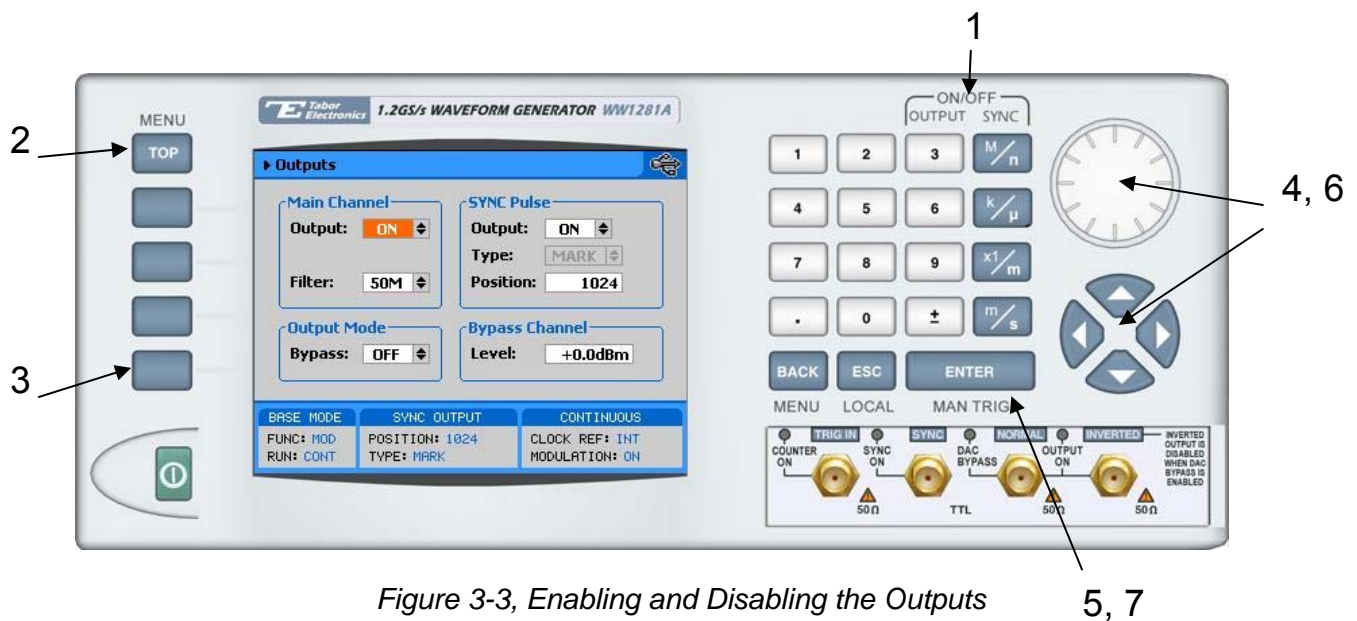

Figure 3-3, Enabling and Disabling the Outputs
For safety reasons, main outputs default setting is OFF. The outputs can be turned on and off using either the hot keys, or the Output Menu. Observe Figure 3-3 and disable or enable the main outputs using the procedure below. The same procedure can be used for enabling and disabling the SYNC output. The numbers on Figure 3-3 correspond to the procedure steps in the following description. While *not* editing any parameter, Press ON/OFF OUTPUT or SYNC to toggle main and sync output on and off.
3. Press Outputs to open the Outputs dialog box as shown in Figure 3-3